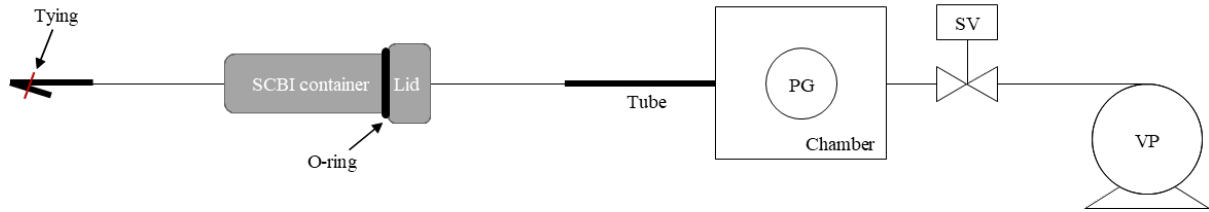
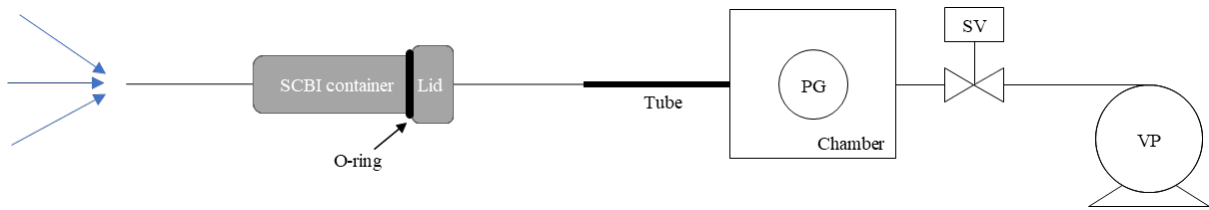

Figure 2.1 Apparatus of lumen leak-tight test for the lumen
Figure 2.2 Apparatus of lumen open test without blocking
- (1) One side of lumen was directly connected to the test chamber which is connected to a vacuum pump (VP) via solenoid valve (SV) as depicted in Figure 2.1. Another side of lumen was blocked.
- (2) The pressure data logger (PG) was located inside the test chamber.
- (3) After sufficient pumping, the solenoid valve was closed in order to isolate the lumen and chamber system.
- (4) If the lumen is leak-tight, the pressure raising rate after closing the valve is almost zero.
- (5) The time evolutions of the pressure were recorded. (The criterion is less than  $0.1 \text{ Torr}\cdot\text{s}^{-1}$ .)
- (6) Same tests without blocking one side of the lumen were conducted to clarify that there is no blockage in the lumen channel as described in Figure 2.2.